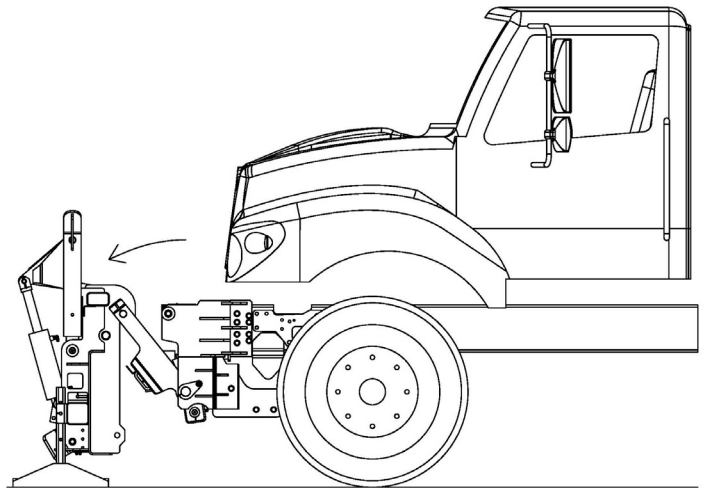

Figure 5: Push Plate Lowered to Ground
8. Use tilt hitch function to lower push plate to the ground. (See Figure 5)